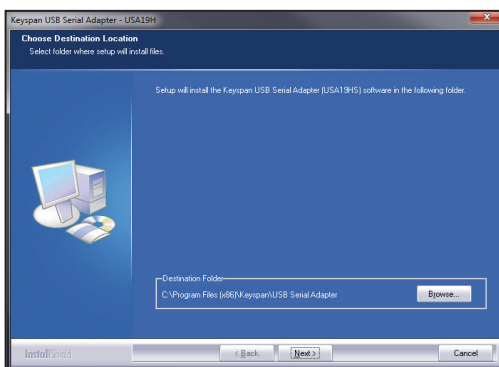

Fig. 8 Installation Folder
- The wizard will show a folder where the driver will be installed (Fig. 8). For most installations, the default folder is correct. Click Next.